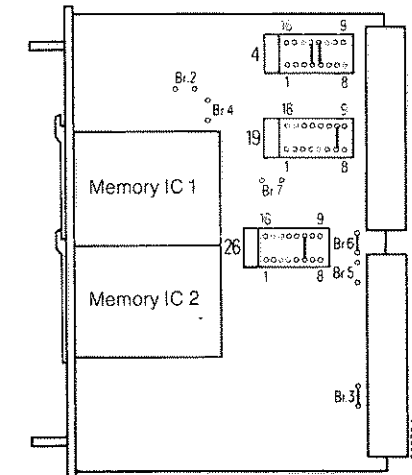

Fig. 5 350 memory module 1
- Insert jumpers 4.4-13 and 4.5-12 (Fig. 5).
- Insert jumper 19.7-10 (Fig. 5).
- Insert jumper 26.6-11 (Fig. 5).